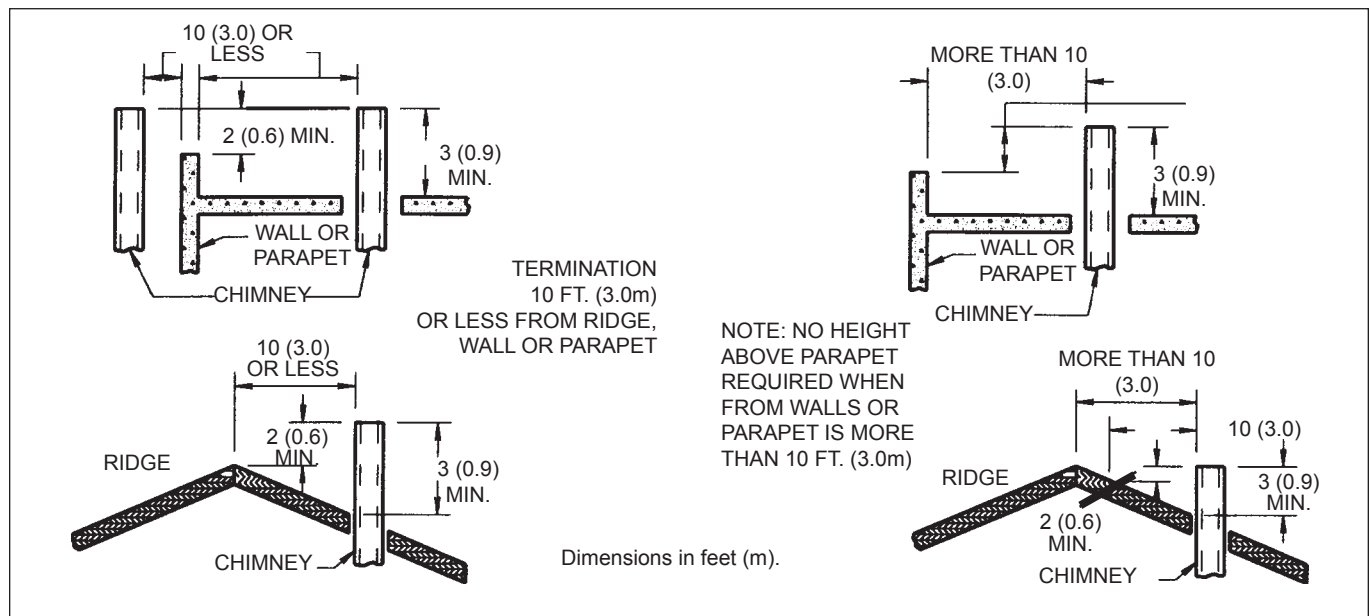

Figure 5. Vertical Vent Termination.
- 1. Attach a vertical pipe at least 12" (305mm) high to the boiler outlet before the horizontal run if run exceeds 5 feet (**see Figure 5**).